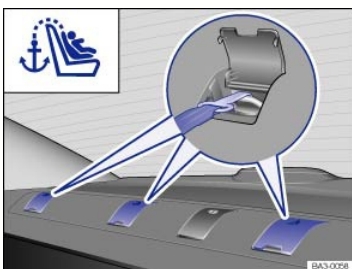

Fig. 79 Anchorages in the shelf behind the rear seat backrest.
- Fold up the cover of the respective anchorage ⇒ Fig. 79.